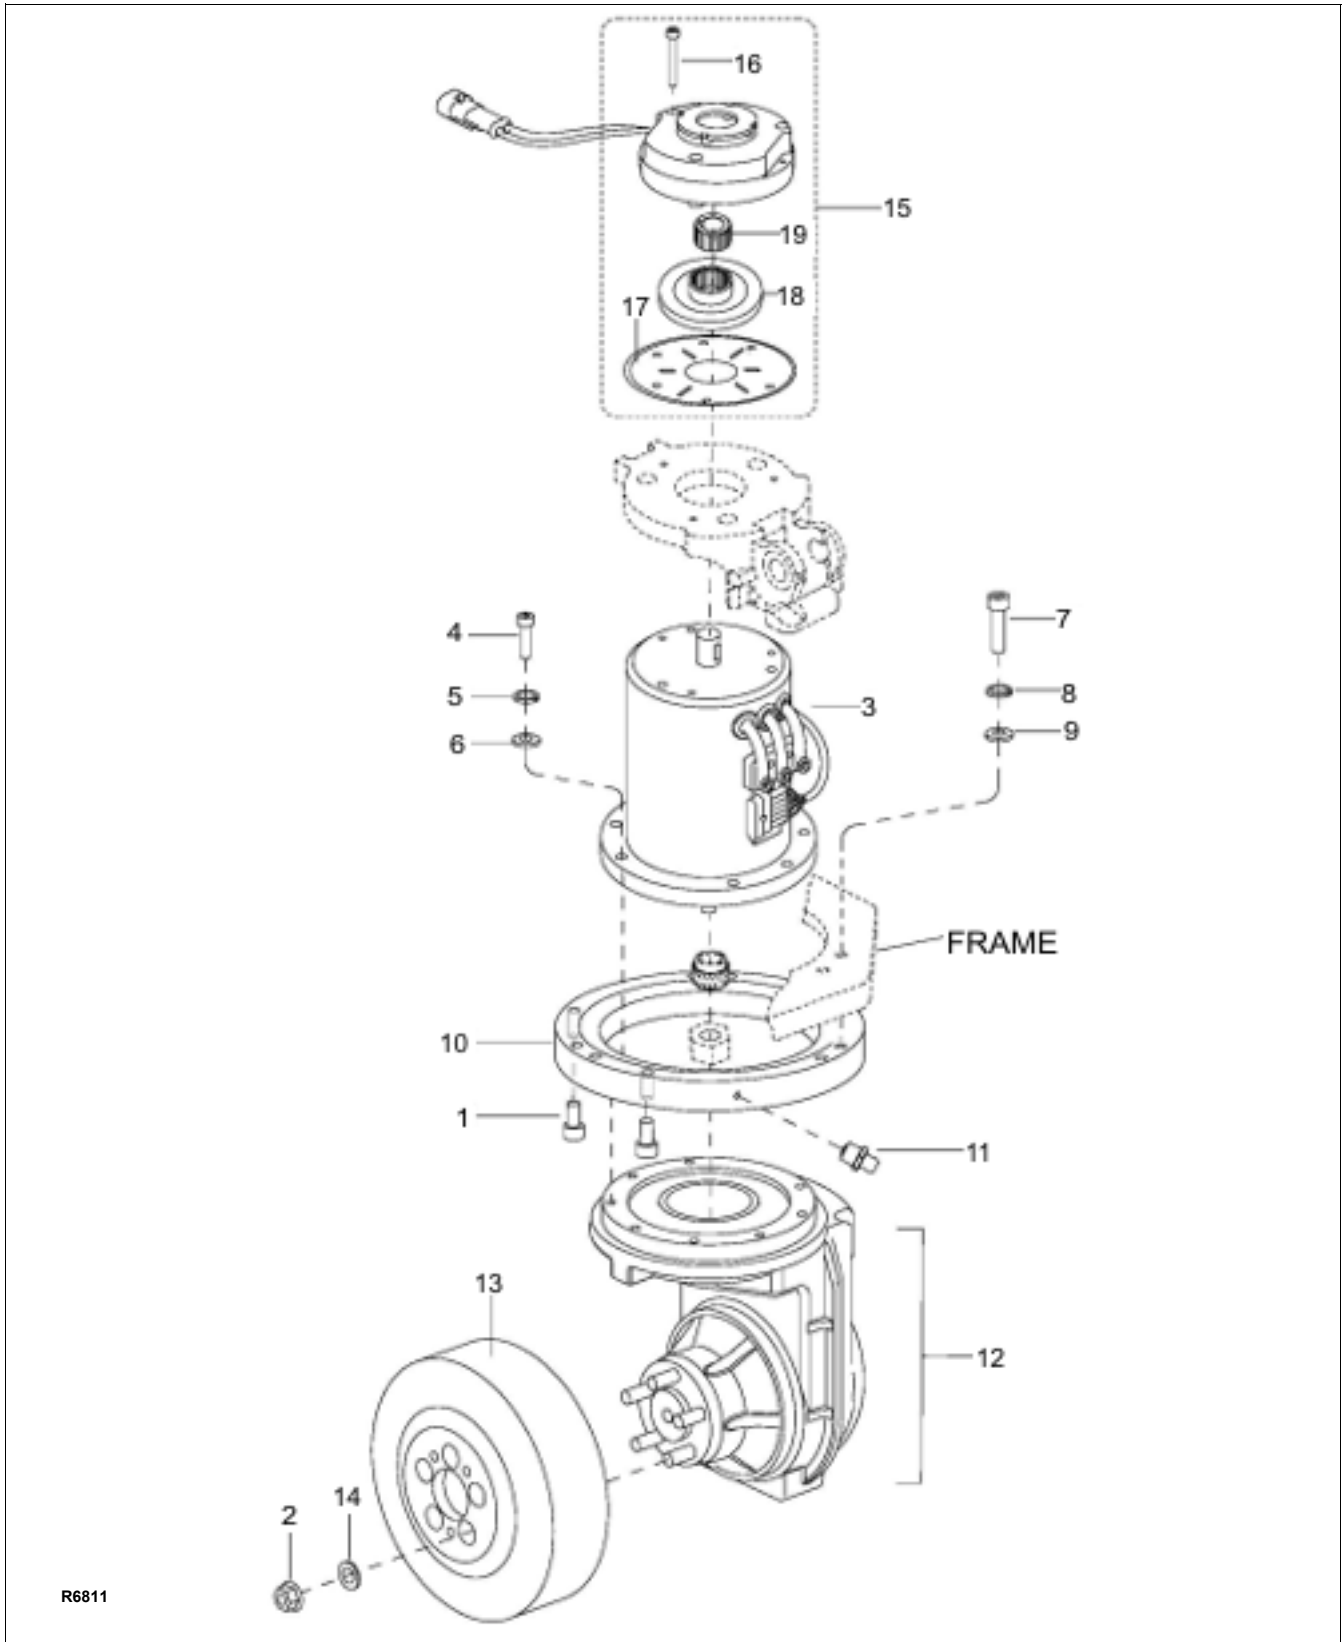
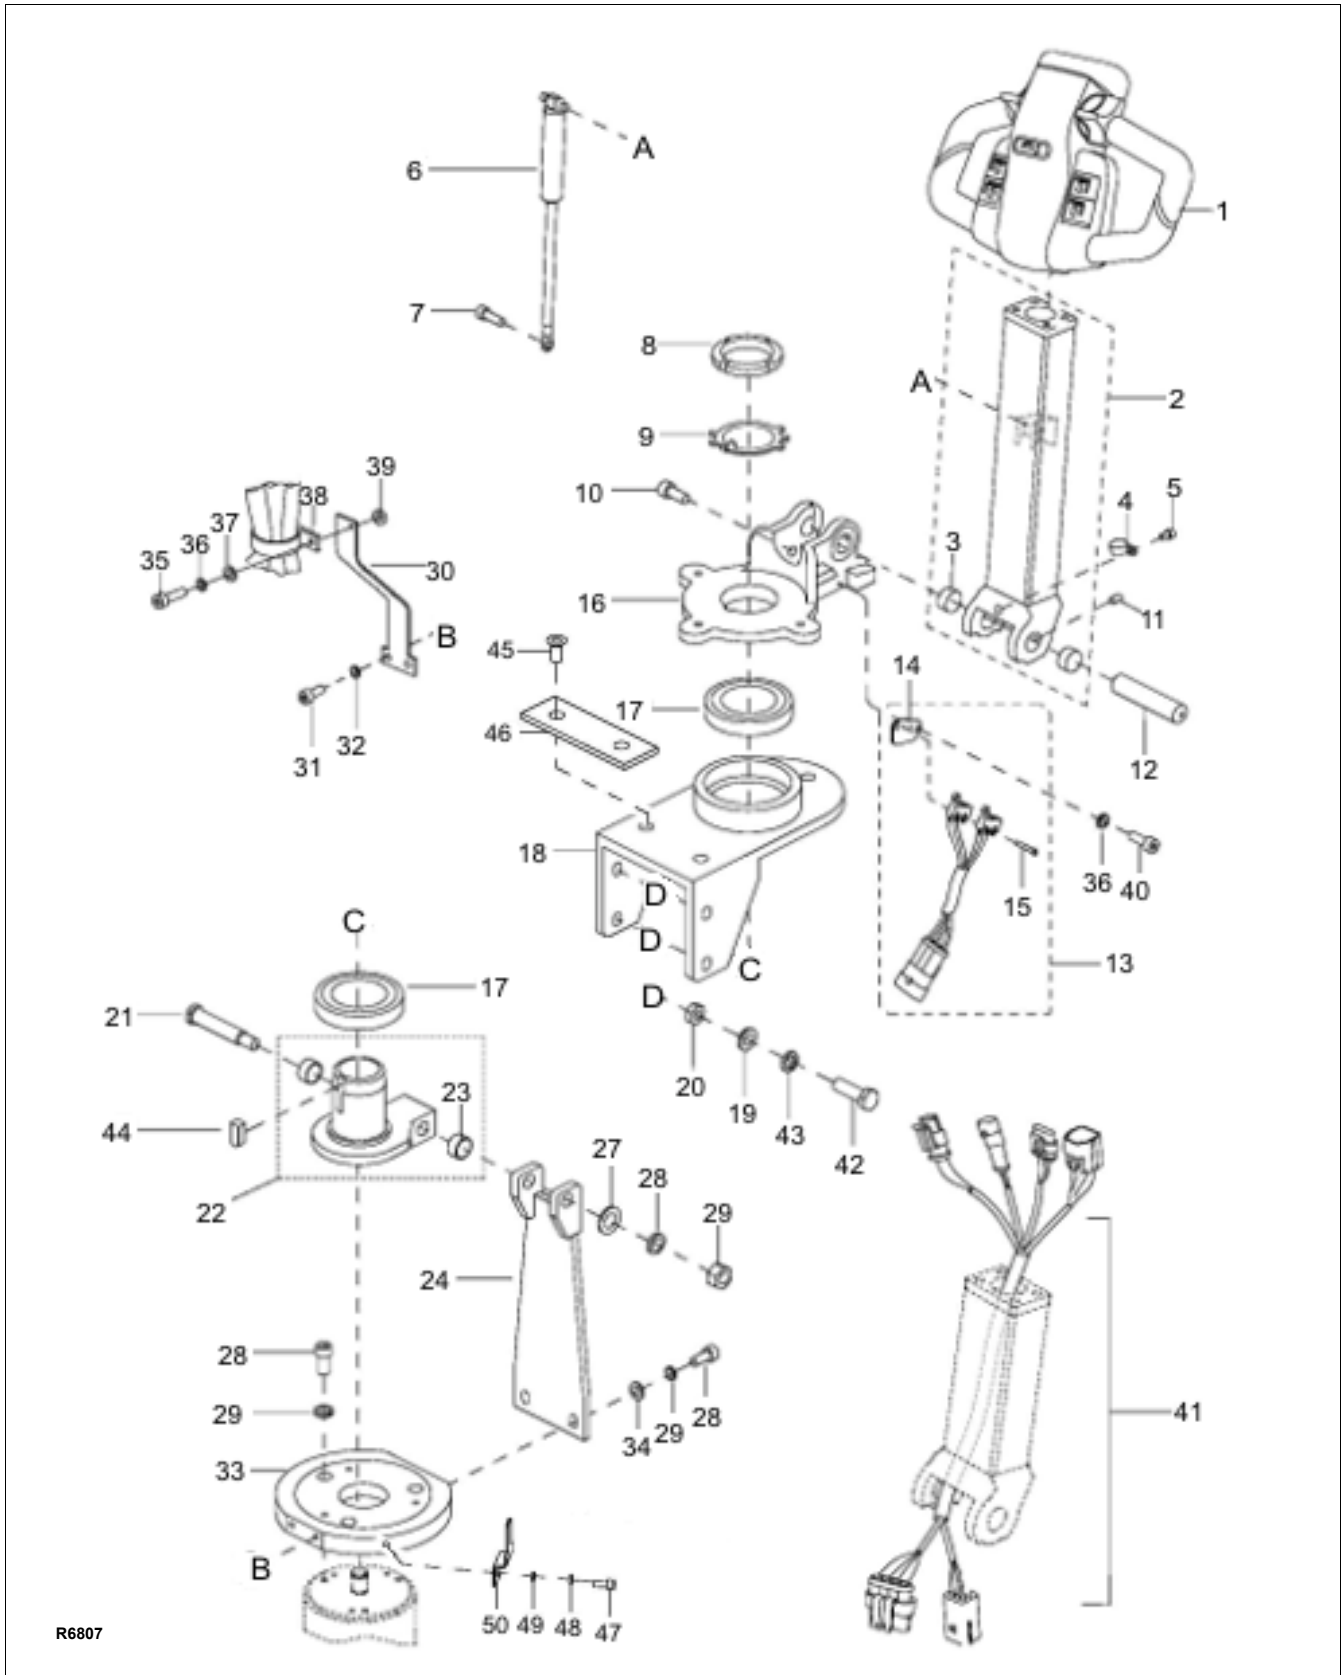

Figure 10-3 Transmission, Motor, Brake Assembly
Figure 12-1 Steering System
3. Remove the eight screws (7, Figure 10-3), eight lock washers (8) and eight flat washers (9).
4. Lift motor (3) from transmission (12).
5. Remove three screws (28, Figure 12-1), three lock washer (29) and plate (33) from the motor.
1. Position key gear on the shaft of motor (3, Figure 10-3) and secure with the mounting nut.
2. Install plate (33, Figure 12-1) on the motor and secure with three screws (28) and three lock washer (29).
4. Reinstall the eight screws (7, Figure 10-3), eight lock washers (8) and eight flat washers (9) to secure the motor to the transmission.
1. Disconnect harness (1, Figure 12-27) from the deadman switch (13, Figure 12-1).
2. Remove the two screws (40), two lock washers (36) and switches (13) from bracket (16).
3. Position the new switches (13) on bracket (16) and secure with the two screws (40) and lock washers (36).
4. Reconnect harness (1, Figure 12-27) to the deadman switch (13, Figure 12-1).